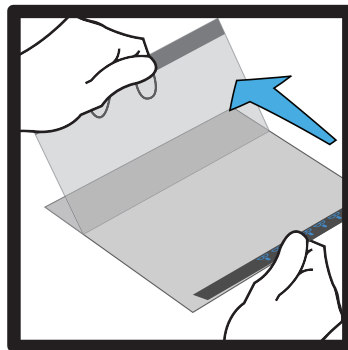
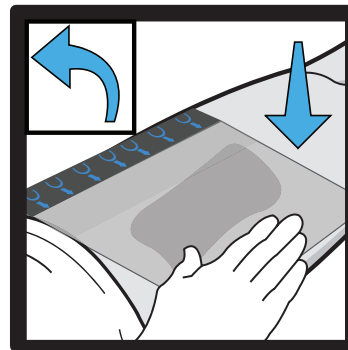

Figure 5
Figure 6
10. Remove the drape's release liner starting with tab A (**Figure 5**). Invert and place over the foam and peri-wound (**Figure 6**) and continue removing the contact layer with B tab and C tab (**Figures 7-8**). Remove the remaining perforated tab (**Figure 9**). Gently press down on drape material around the wound site and over the foam to ensure dressing is properly sealed.